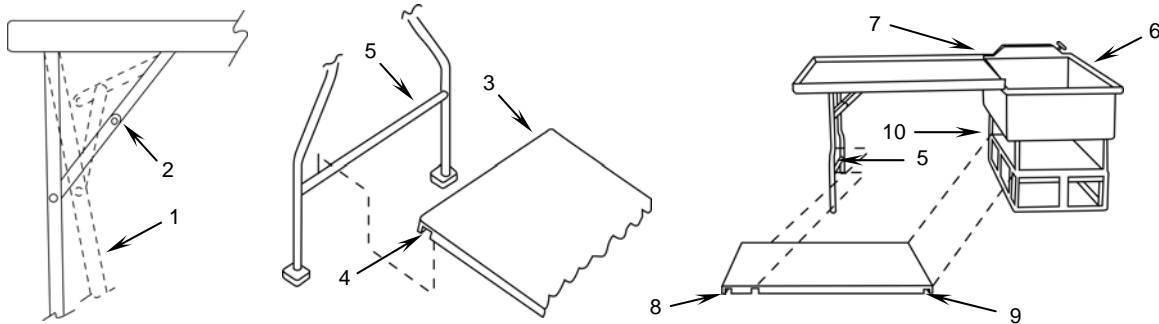

Figure 7. Installing the Work Table and Drain Table.
- a. Pull out the leg assemblies (**Figure 7, Item 1**) until the linkage (**Figure 7, Item 2**) snaps into place in the fully extended position.
- b. Place the work table shelf (**Figure 7, Item 3**) so that the end lips (**Figure 7, Item 4**) rest on the leg crossbars (**Figure 7, Item 5**).
- d. Attach the lip of the drain table (**Figure 7, Item 7**) to the end of sink body assembly (**Figure 7, Item 6**).
- e. If used with the drain table, position the shelf inner cutout (**Figure 7, Item 8**) across the leg crossbar (**Figure 7, Item 5**) and place the opposite lip (**Figure 7, Item 9**) of the shelf on the left sink base rack (**Figure 7, Item 10**).